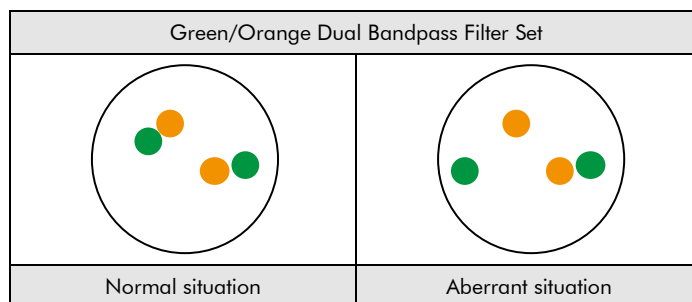

Fig. 2: Expected results in normal and aberrant nuclei
**Normal situation:** In interphases of normal cells or cells without a translocation involving the ABL2 gene region, two green/orange fusion signals appear (see Fig. 2).
**Aberrant situation:** One ABL2 gene region affected by a translocation is indicated by one separate green signal and one separate orange signal (see Fig. 2).